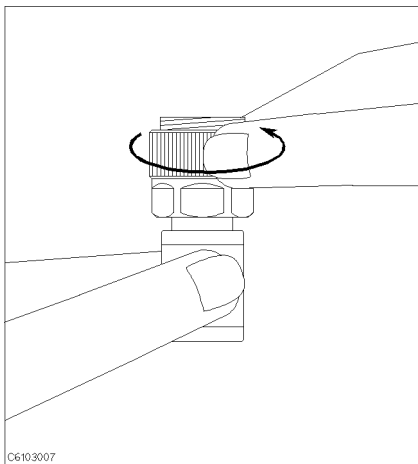

Figure 3-9.
12. Turn only the APC-7[®] connector nut of the 50 Ω termination as shown in Figure 3-9.